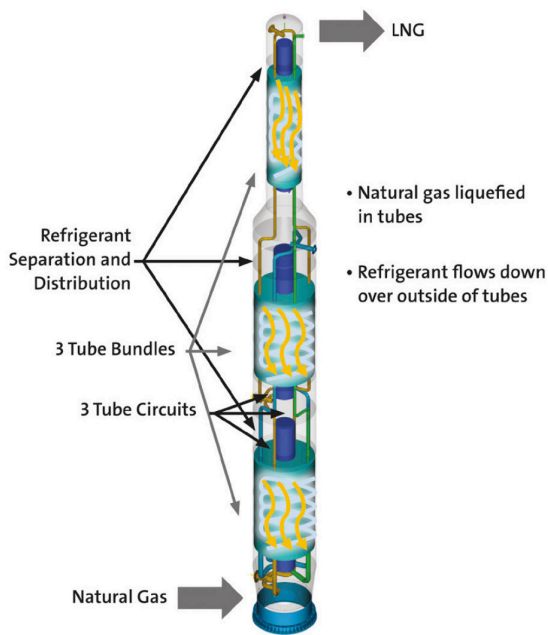

Figure 1. Main cryogenic heat exchanger.
A CWHE consists of a shell containing one or more tube bundles (Figure 1). A bundle is made up of tubes wound around a mandrel
The flow directions are sketched in Figure 1. The streams that are cooled (natural gas and high-pressure warm refrigerant) flow upward through the tubes in their respective circuit, with the natural gas leaving as LNG. Cooling is provided by boiling the cold refrigerant as it cascades down the outside of the tubes in an evaporating thin film. In mixed refrigerant (MR) processes, the refrigerant composition can be adjusted during operation to maximise plant efficiency, by blending nitrogen and low molecular weight hydrocarbons (C1 through C5).